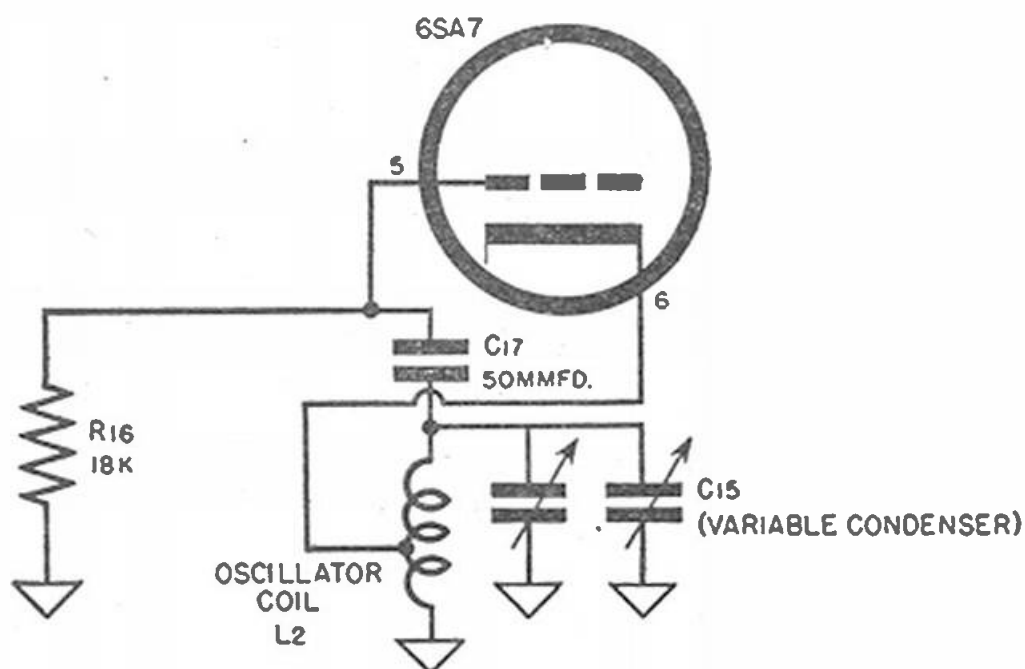

Fig. 2-40. Oscillator circuit.
h) *Oscillator Circuit.* Refer to Figure 2-40 for a sectional diagram of